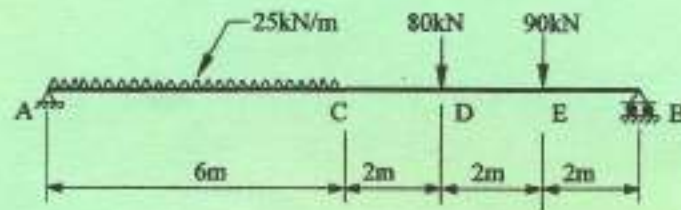

Fig 1
1. (a) Using Macaulay's method, determine in terms of EI , the deflection at points C and D in the beam loaded as shown in Figure 1. (12½ marks)